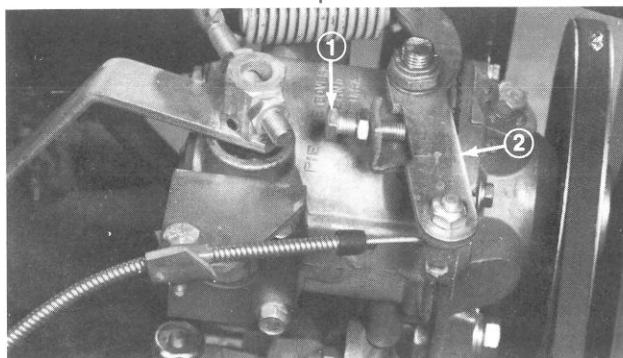

Figure 43
3. Slowly move throttle to FAST position until engine speed reaches 3200 rpm. Then set stop screw against throttle arm (Fig. 43).